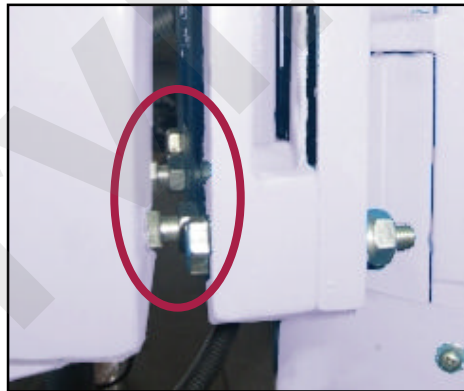

Figure 11 - Close-up of the bolts (2).
4. Unlock the counter-nuts and tighten the bolts (2) which press against the rear part of the head (figure 11), by using a wrench for hexagonal nuts.